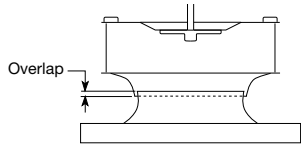

Figure 8
1. Check all fasteners and setscrews for tightness. The wheel should rotate freely and be aligned as shown in Figure 8.